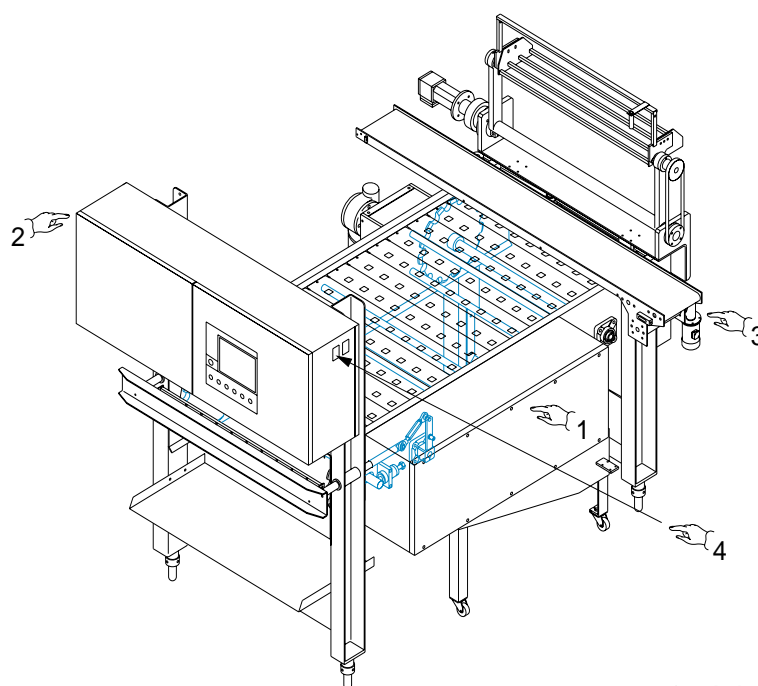

Fig.4.4
- Connect the coating tank (Pos. 1, Fig. 4.4) to the control panel of the pick-up machine (Pos. 2, Fig. 4.4) using the multiple connection cable provided.
- Connect the smooth belt (Pos.3, Fig. 4.4) to the control panel of the pick-up machine (Pos. 4, Fig. 4.4) using the multiple connection cable provided.